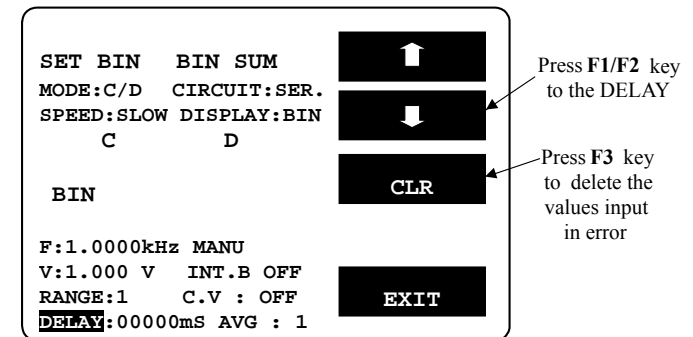

Figure 8-12
- Press  key. Please refer to Figure 8-12 below.